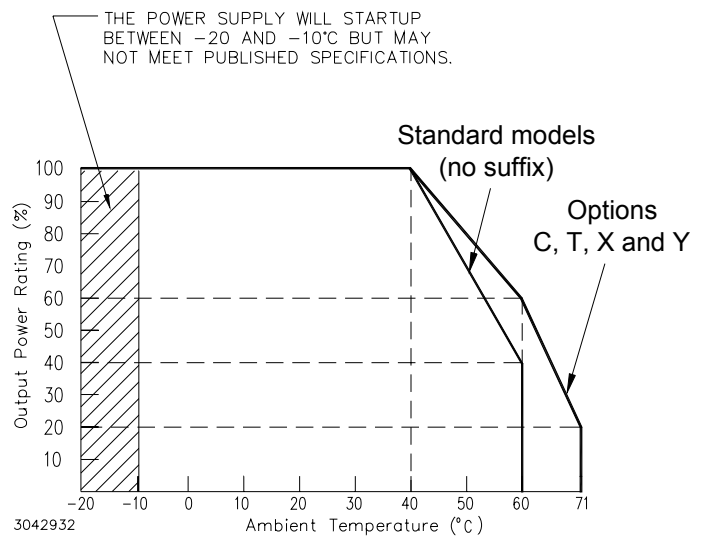

FIGURE 4. % OUTPUT POWER RATING VS. AMBIENT TEMPERATURE
OPERATING TEMPERATURE: See Figure 4.
(1) Unless otherwise noted, specifications are identical for all options.
(2) Forced current Share not available for 3.3V Models.
(3) Derates same as Output Power.
(4) Current Limit is rectangular. After the overload is removed, output is automatically restored.
(5) See power derating curve, Figure 4.
(6) Ripple and noise will be approximately 1.5 times higher when operating temperature range is between -10°C to 0°C.
(7) 0-71°C, 0-100% load.
(8) Sense resistor on C and Y Models used for current monitoring. See "Current Monitor." on page 2 for details.